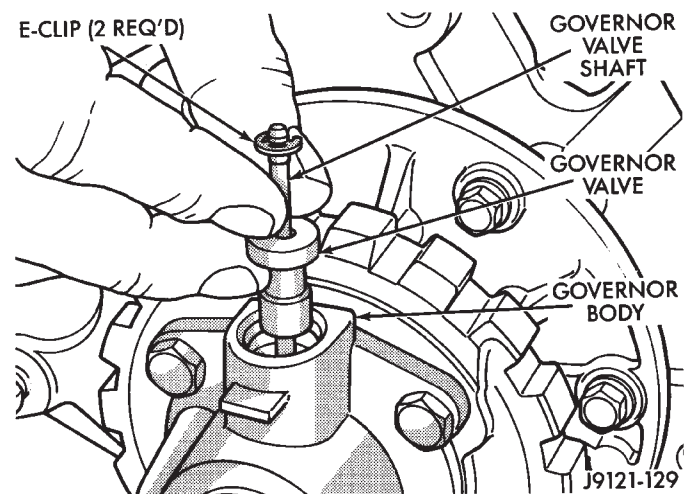

Fig. 143 Installing Governor Valve And Shaft
(5) Install first E-clip on governor valve shaft. Then install governor valve and shaft in governor body (Fig. 143). **Be sure valve shaft moves freely**